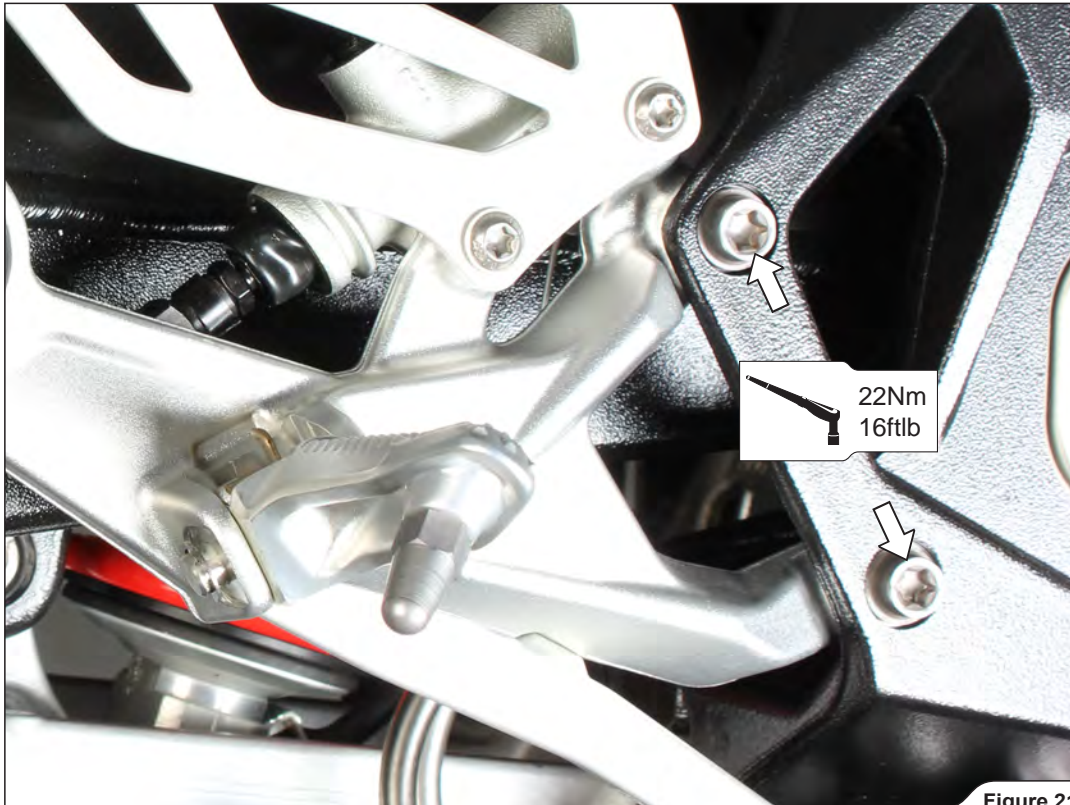

Figure 21
15. Reinstall the right foot peg (Figure 21).